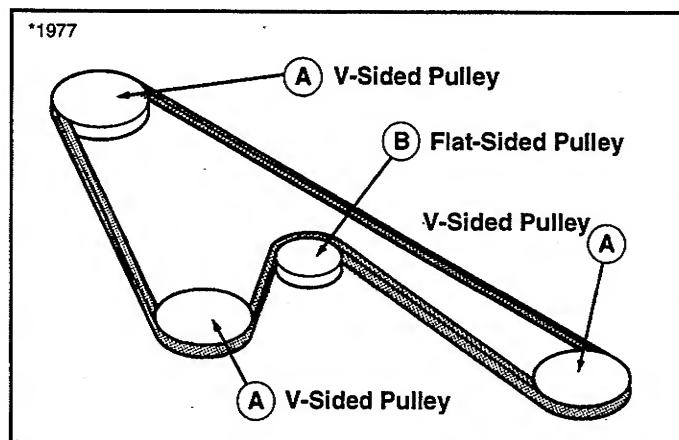

Figure 39. Mower Arbor Belt Routing
7. Install new belt as shown in figure 39. Make sure that V-side of belt runs in arbor pulley grooves and flat side of belt runs against idler pulley.